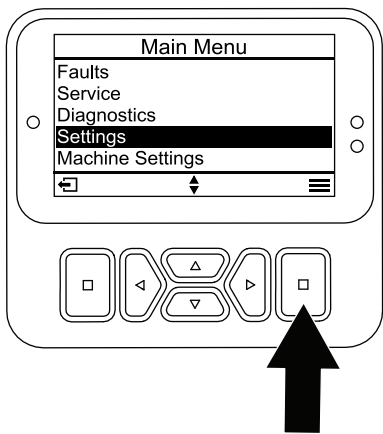

Figure 24
1. From the MAIN MENU, scroll down to the SETTINGS menu and press the select button (Figure 24).